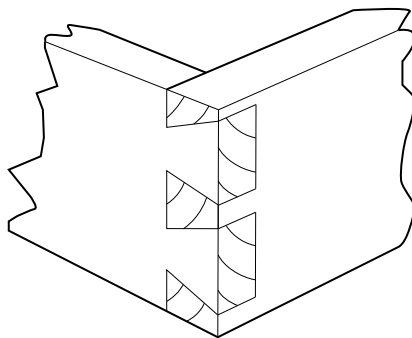

Fig. 3
- 5 Fig. 3 shows a wood joint.
- (a) Name the wood joint shown in Fig. 3.